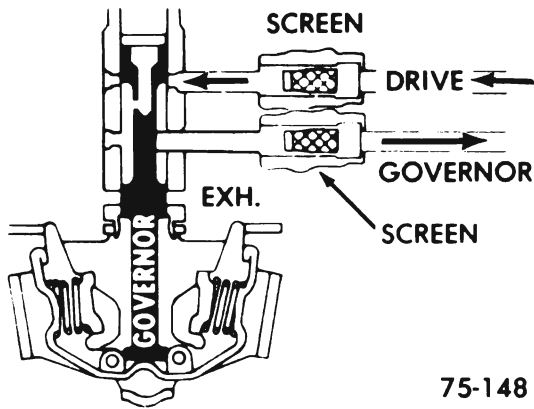

Figure 75-16 - Governor Assembly
**C. Governor Assembly (See Figure 75-16)**